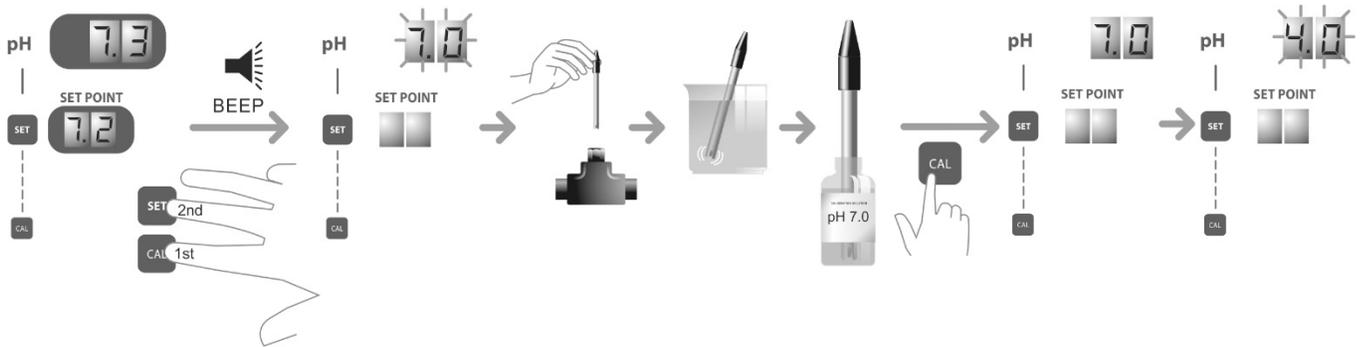

Fig. 15a
2. Press the “CAL” [8] and “SET” [7] keys simultaneously during several seconds, until the upper display screen [5] blinks, displaying “7.0” (Fig. 15a).